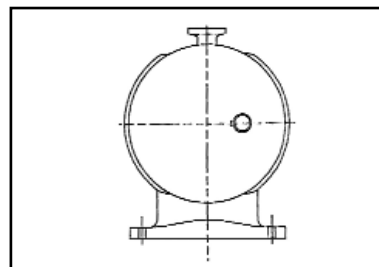

Fig. 4
- Vertical pipe orientation - Fig. 4